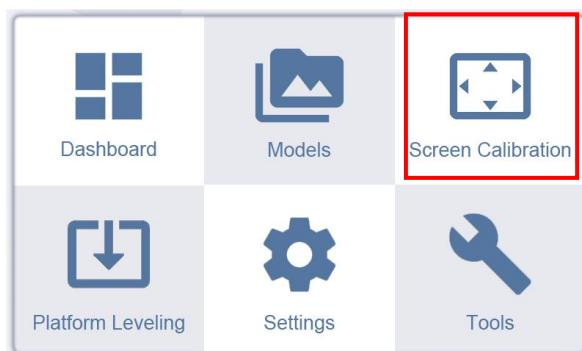
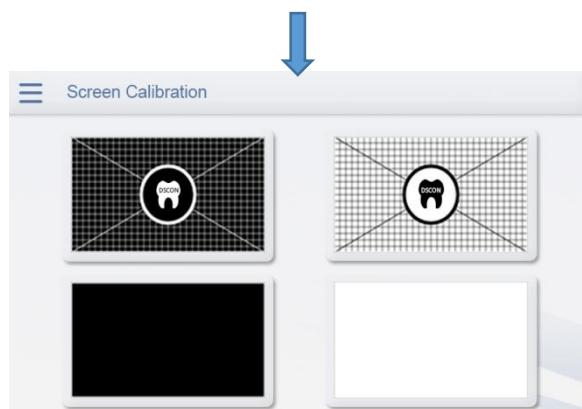

Figure 3-14
Figure 3-15
1. After leveling is completed, it is necessary to perform an exposure test on the curing screen to check if it is functioning properly. The exposure testing process is as follows: Click on 【Screen Calibration】 in the main menu as shown in figure 3-14, then enter the submenu and click on any exposure pattern again as shown in figure 3-15. This will put the exposure screen into working mode.